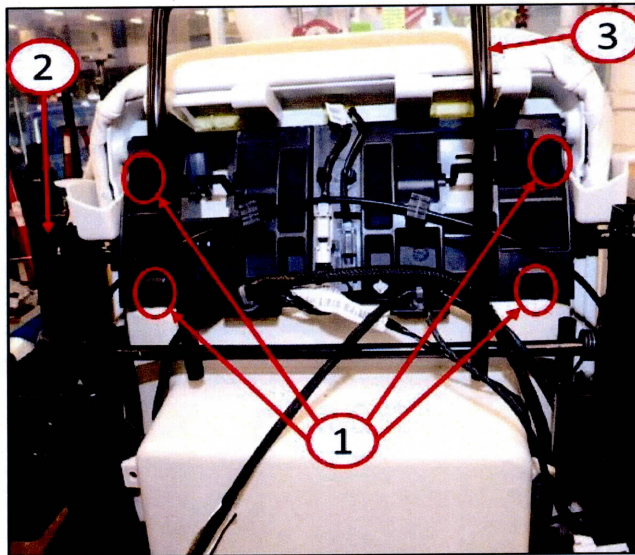

Fig. 1 Remove Storage Bin
2. Remove the four fasteners (1) and disconnect any retaining clips or connectors in order to remove the seat bottom/storage lid assembly (Fig. 1).